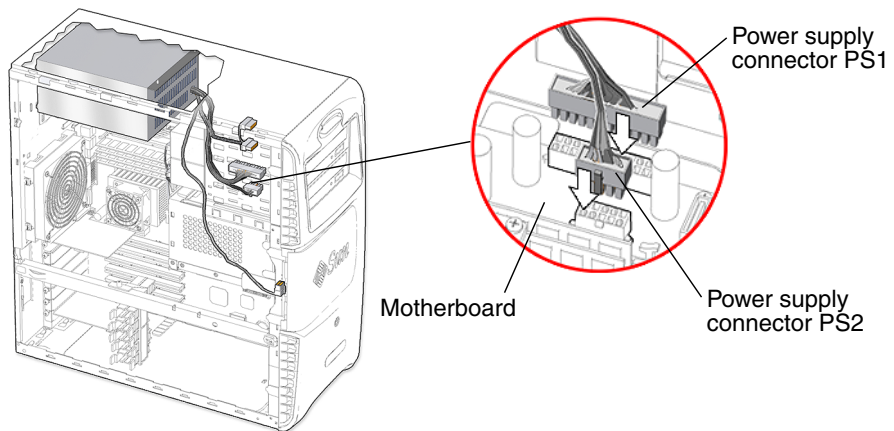

FIGURE 13-9 Installing Power Supply Connectors PS1 and PS2 to the Motherboard
7. Connect power supply connectors PS1 and PS2 to the motherboard (FIGURE 13-9).